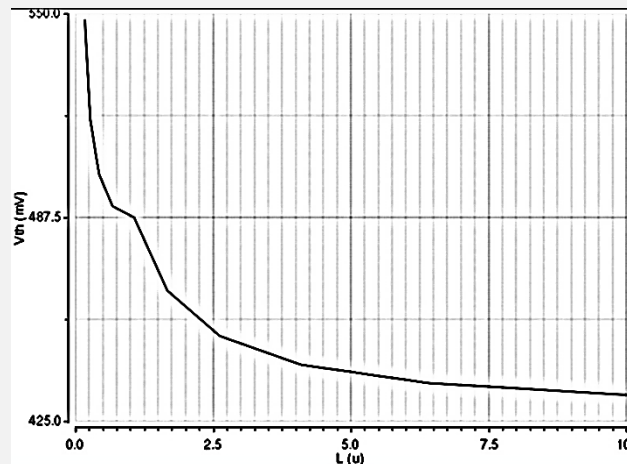

Figure 3.9: Reverse short channel effect
When  $L$  gets shorter, halo regions overlap, leading to effectively higher substrate doping, and thus higher  $V_t$ . This is called a **reverse short-channel effect** -  $V_t$  increase with decrease of  $L$ . This effect is shown in Fig.3.9
- Based on plot shown in Fig.3.9, measure the values of  $V_T$  at  $L = 45nm, 180nm, 1\mu m, 5\mu m, 10\mu m$ .